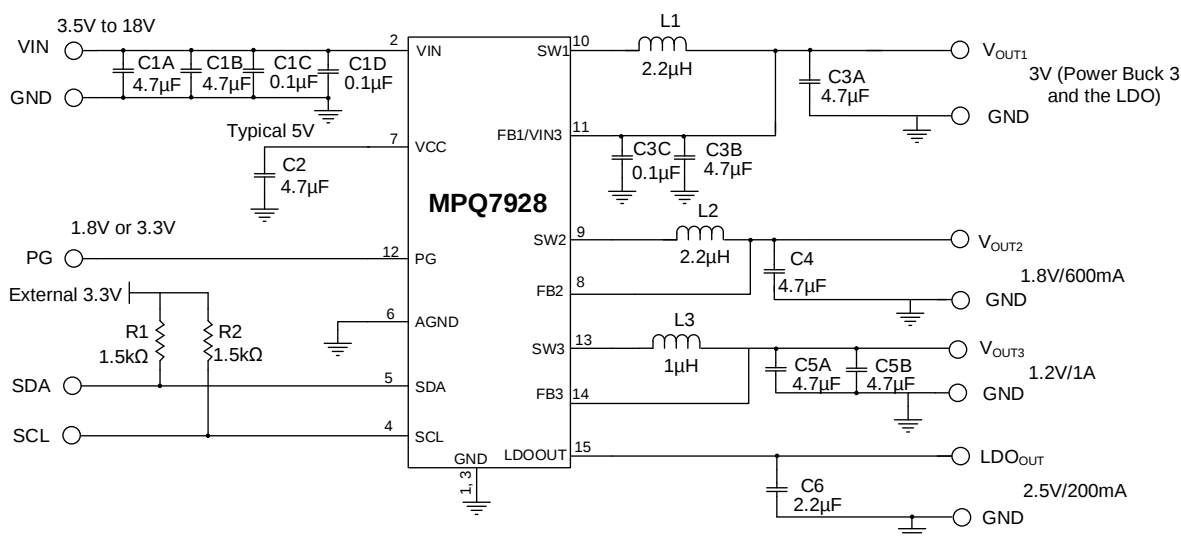

Figure 16: Typical Application Circuit ($V_{OUT1} = 3V$, $V_{OUT2} = 1.8V$, $V_{OUT3} = 1.2V$, $V_{LDO} = 2.5V$)
13) The recommended PCB layout is based on Figure 16 on page 67.